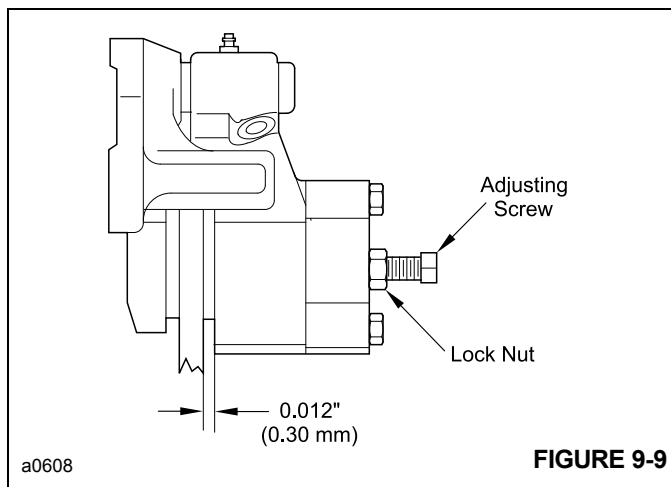

FIGURE 9-9
2. Loosen the lock nut and adjusting screw Figure 9-9.